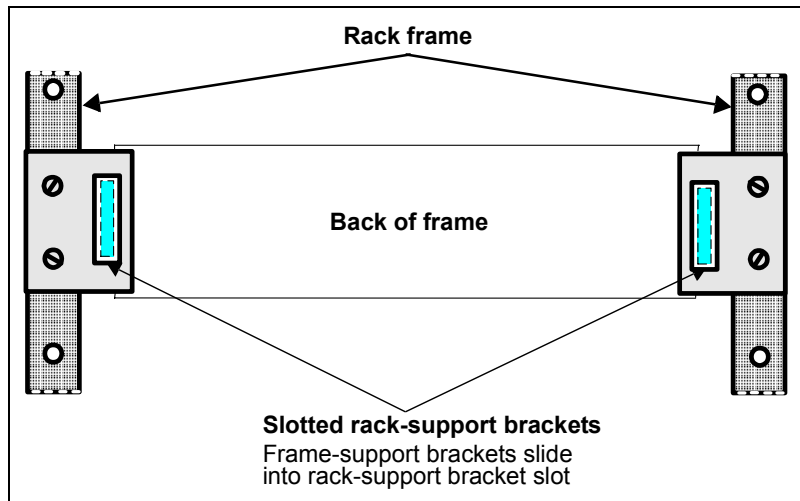

Figure 2-4. Installing Rack-Support Brackets
4. Attach the two slotted rack-support brackets at the rear of the rack, with the slots facing inward. See Figure 2-4.